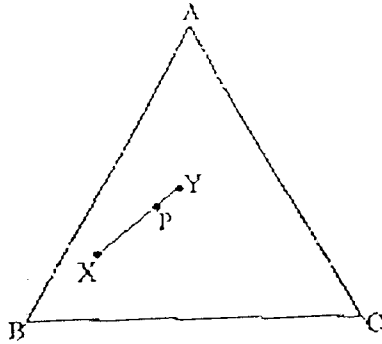

Figure 6: Ternary Diagram for ABC System
6. [a] A mixture represented by point P in Figure 6 is to be prepared by mixing the mixtures X and Y. Determine the ratio of X to Y to obtain the right composition. The composition of each point is given in the following table: